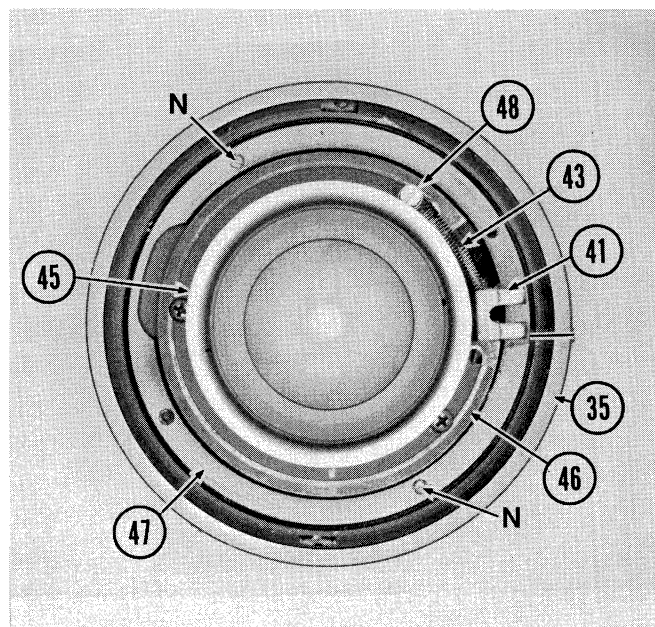

Fig. 25
- 4.1.1 Disconnect Diaphragm Spring (43) from Post Screw (48) and from Diaphragm Lever (41). (Fig. 25)
- 4.1.2 Rotate Diaphragm Lever (41) clockwise, hard against the Diaphragm Limit Ring (46). Scribe a line across rim of Prime Lens Barrel (35), in line with right edge of Diaphragm Lever Fork, as shown in Fig. 25.
- 4.1.3 Remove 2 setscrews (N) in the Diaphragm Housing Retainer Ring (47). (Fig. 25)
- 4.1.4 Holding Diaphragm Housing (45) so that it cannot rotate within Prime Lens Barrel (35), remove Diaphragm Housing Retainer Ring (47) by unscrewing it counterclockwise. (Fig. 25)
4.2.5 Install Diaphragm Housing Retainer Ring screwing it down until snug so that the Diaphragm Housing (45) will just turn. (Fig. 25)
- 4.2.8 Holding Diaphragm Lever clockwise against its stop, rotate Diaphragm Housing (45) to realign Diaphragm Lever and scribed line as shown in Fig. 25.
- 4.2.10 Replace Diaphragm Spring (43), attaching one end to stud on Diaphragm Lever (41) and one end to Post Screw (48). (Fig. 25)